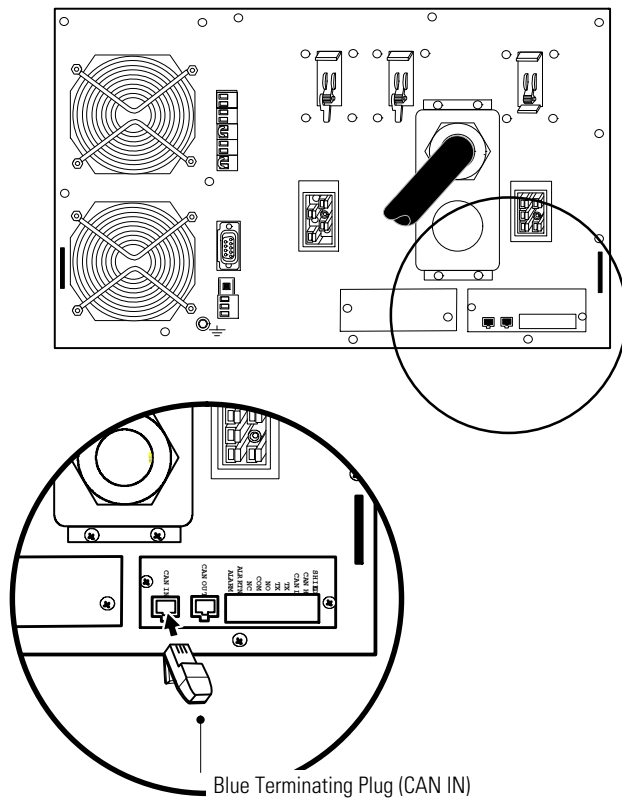
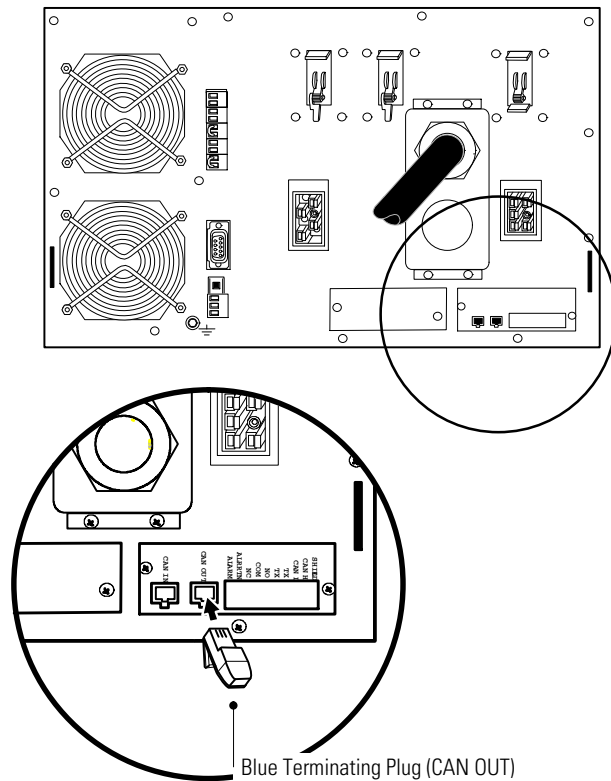
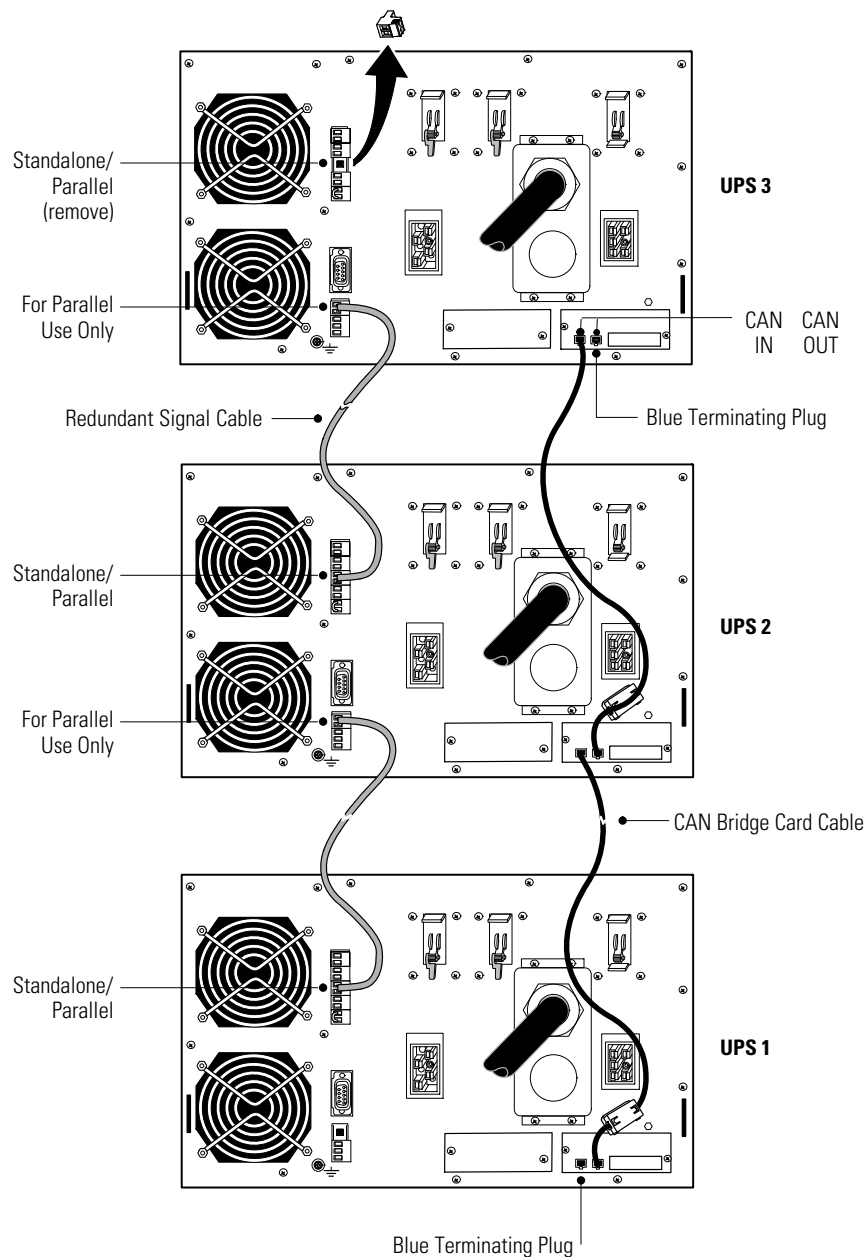

Figure 60. Installing the Blue Terminating Plug (First UPS)
Figure 61. Installing the Blue Terminating Plug (Last UPS)
Figure 62. Typical CAN Bridge Card and Redundant Signal Wiring
9. Install one of the two supplied blue terminating plugs (see Figure 60) into the CAN IN port on the first UPS (UPS 1 in Figure 62).
10. Install the second supplied blue terminating plug (see Figure 61) into the CAN OUT port on the last UPS (UPS 3 in Figure 62).
12. Using the supplied connectors, install a CAN Bridge Card cable between each UPS as shown in Figure 62, connecting the CAN OUT port on one UPS to the CAN IN port on the next UPS.
NOTE You can configure the parallel system with UPS 1 at the bottom of the rack (as shown in Figure 62) or at the top of the rack.
- 13.** Install a redundant signal cable between the For Parallel Use Only and Standalone/Parallel terminals on each UPS as shown in Figure 62.
- 14.** Remove the Standalone/Parallel terminal block connector from the last UPS (UPS 3 in Figure 62).